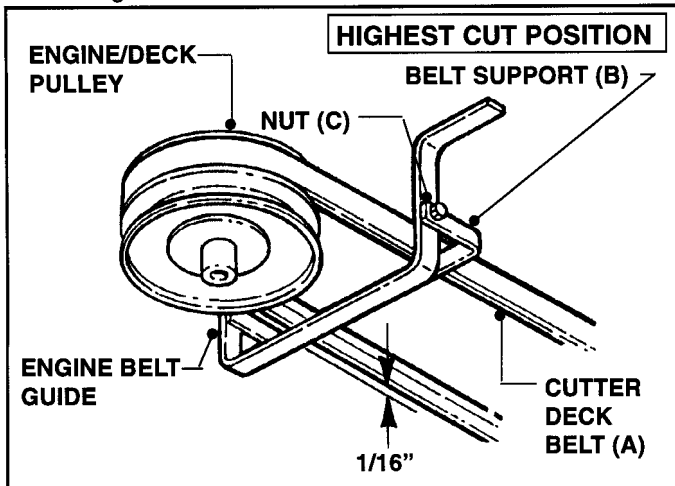

FIGURE 5.8
- B.** Check clearance between Cutter Deck Belt (A) and Belt Support (B), if the clearance is greater or less than  $1/16"$  adjust Belt Support (B). Belt Support (B) is positioned beneath Cutter Deck Belt (A). See Figure 5.8.
- C.** To adjust Belt Support (B), loosen both Nuts (C), then move Belt Support (B) up or down until there is  $1/16"$  clearance between Cutter Deck Belt (A) and Belt Support (B). Refer to Figure 5.8.